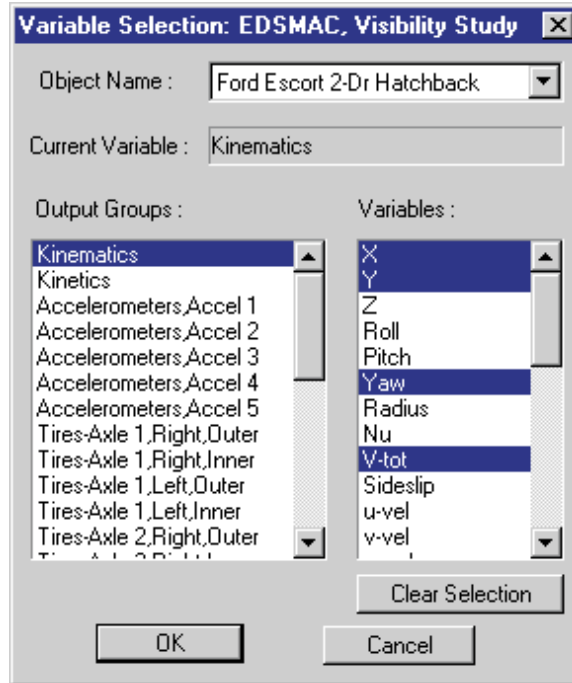

Figure 5-16 Variable Selection dialog, used for selecting the results displayed in the Output Report.
- Click on *Select Variables* in the Variable Output window. The Variable Selection dialog is displayed, as shown in Figure 5-16 on the following page.